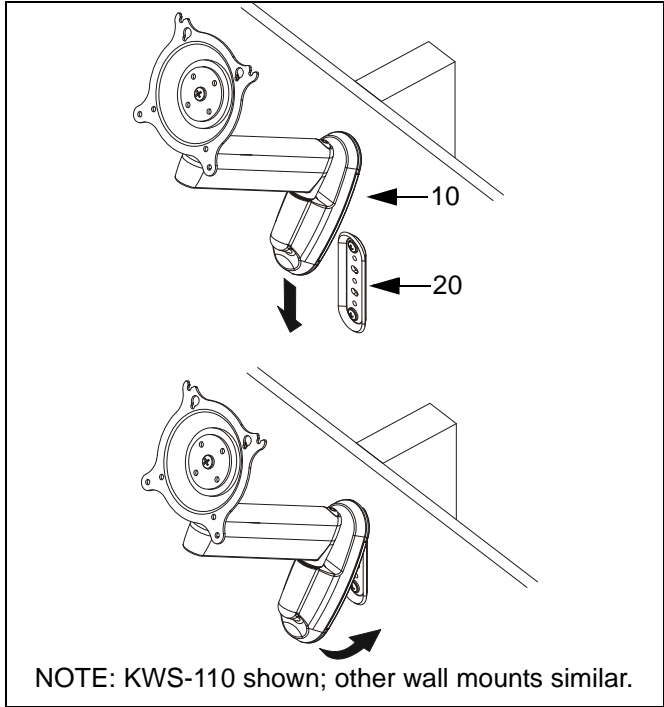

Figure 2: Install Wall Mount
- Insert top of mount (10) over lip on top of bracket (20) (See Figure 2). Swing mount (10) down flush against wall.